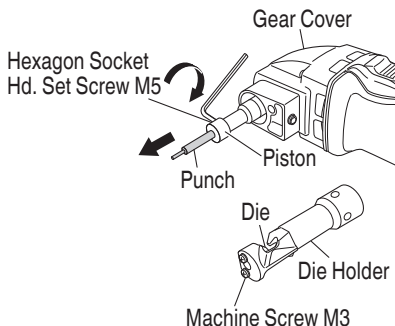

Fig. 11
- (b) Loosen the M5 hexagon socket set screw fastening the punch to the piston and pull out the punch. (see Fig. 11)
Loosen the 2 machine screws and replace the die. (see Fig. 11)